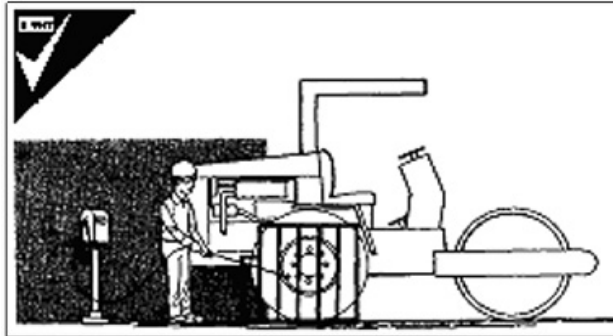

Figure 1-17
- Carry out the tire replacement in a specific location for that purpose. Remember that the tires are inflated. of compressed air, and therefore special tools and equipment should be used in its replacement (figure 1-17).